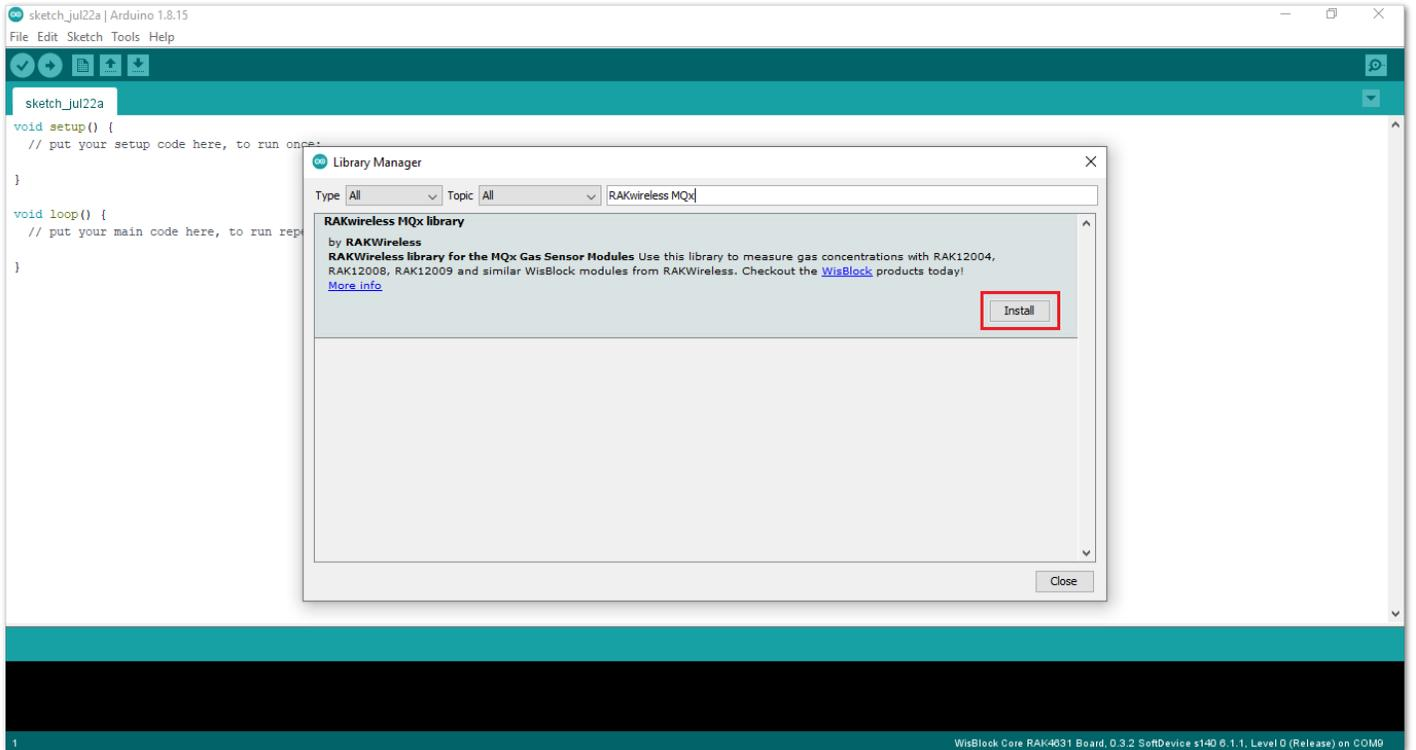

Figure 10: Finish RAK-MQx library Installation
6. To finish the installation, click on the **Install** button, as shown in **Figure 10**.